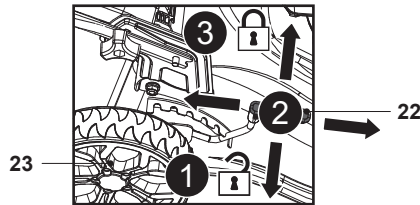

Fig. 17
1. Pull the lever for cutting height adjustment (22) towards the rear wheel (23) (Fig. 17, step 1) and hold it in position.
2. Move the lever for cutting height adjustment (22) forward or backward to the desired cutting height (Fig. 17, step 2).
3. Release the lever for cutting height adjustment (22) and ensure it engages into place properly (Fig. 17, step 3).